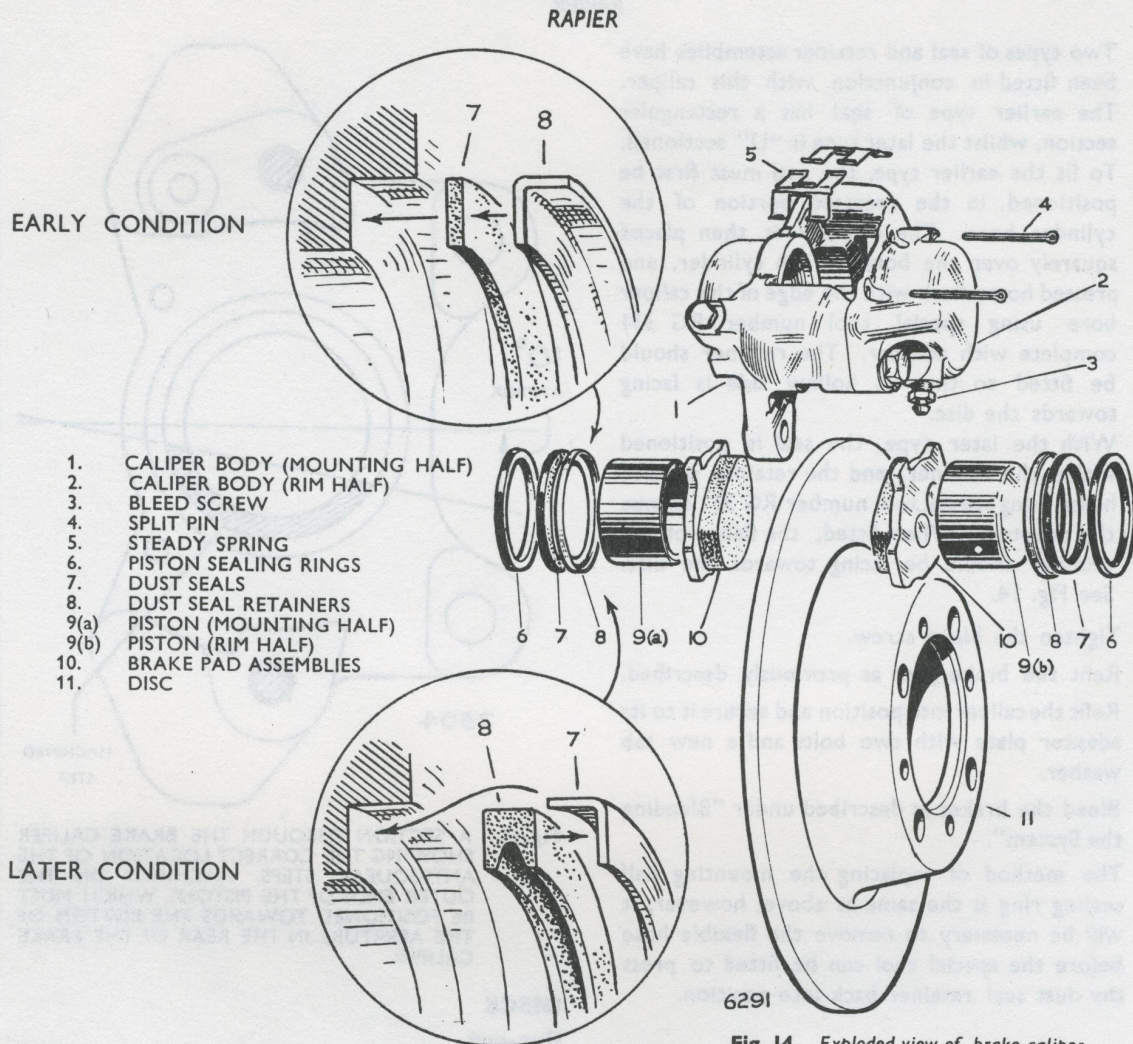

Fig. 14. Exploded view of brake caliper
To remove (See Fig. 14)
If the rubber sealing rings (item 6, Fig. 14) are worn or damaged, they should be replaced immediately. Before refitting seals, seal retainers and pistons, they should be coated with Lockheed Disc Brake Lubricant.
5. Retain the mounting half piston (item 9(a), Fig. 14) in its cylinder using special tool No. RG.331 carefully avoiding the brake hose.
6. Gently apply the footbrake until the rim half piston (item 9(b), Fig. 14) has been pushed out far enough to be removed by hand.
8. Remove the sealing ring (item 6, Fig. 14) by inserting a blunt screwdriver under the ring and prising it out. Take great care not to damage the locating grooves.
9. Should the dust seal (item 7, Fig. 14) require renewing, the dust seal retainer should first be removed by inserting the blade of a screwdriver between the retainer and seal and carefully prising out. The dust seal can then be lifted out. When renewing the dust seals, always fit new dust seal retainers.
12. Open the bleed screw (item 3, Fig. 14).
With the later type, the seal is positioned within the retainer, and the retainer pressed home using special tool number RG 331 **minus** the adaptor. When fitted, the flange of this retainer should be facing towards the disc. See Fig. 14.